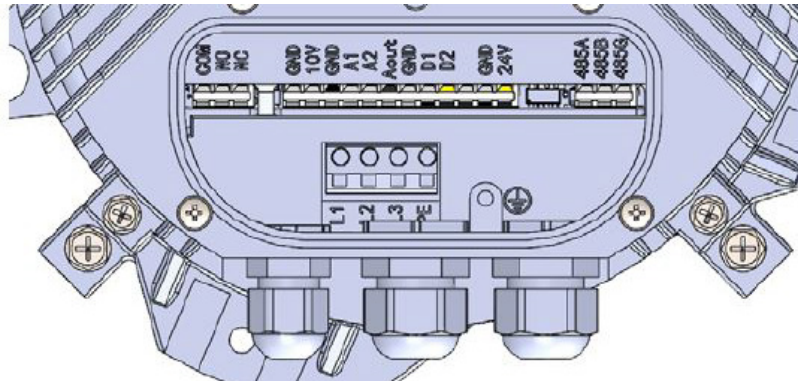

Figure 29. Terminal Block Diagram
4. Remove caps from the cable glands. Label and remove wiring from terminal blocks shown in **Figure 29**. Carefully tag these wires properly to ensure that they are connected at the same location on the new fan motor. These wires carry polarity-sensitive signals.